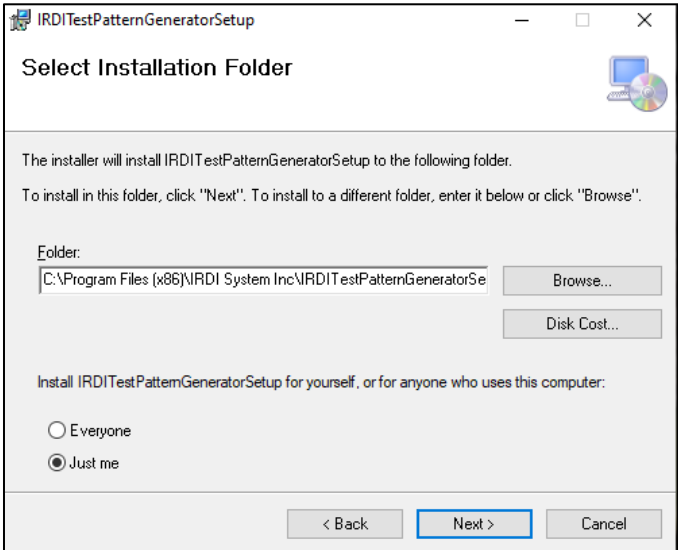

FIGURE 5-6 DESTINATION DIRECTORY
STEP 3	Select the destination directory, then click on the “Next” button – see Figure 5-6.